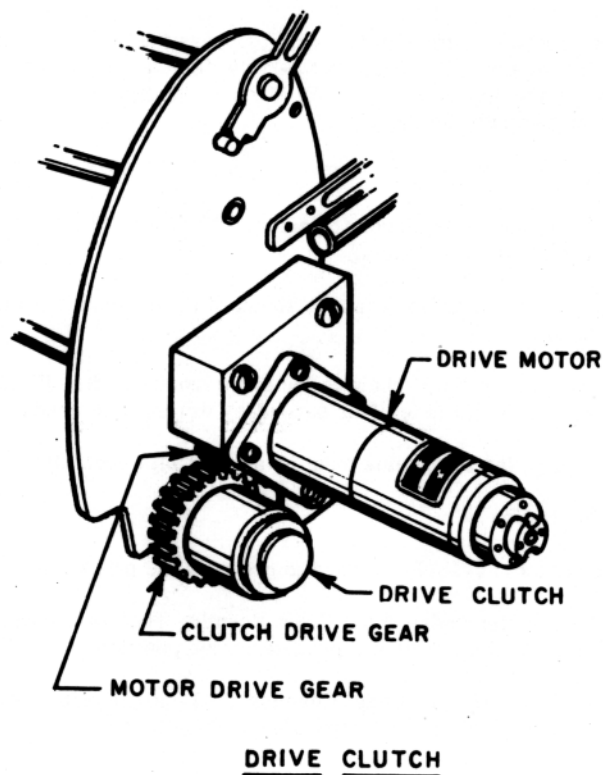

Figure 15.
1. With power turned on, the clutch drive gear (Figure 15) will slowly rotate in the reverse direction. (At the moment the power is turned on, there might be a single "clicking" sound as the rotary solenoid and pawl operate once.) The operator may now easily rotate the platen back and forth while threading forms.
4. The drive clutch (Figure 15) which was slowly idling in a counterclockwise direction, is now driven clockwise by the motor as viewed from the right of the platen. The clutch is now engaged and the Automatic Vertical Spacer is now pulling the forms through the writing machine.
The motor mount is attached to the main frame with three screws (Figure 15). In the event the motor and clutch drive gear bind, adjust as follows: